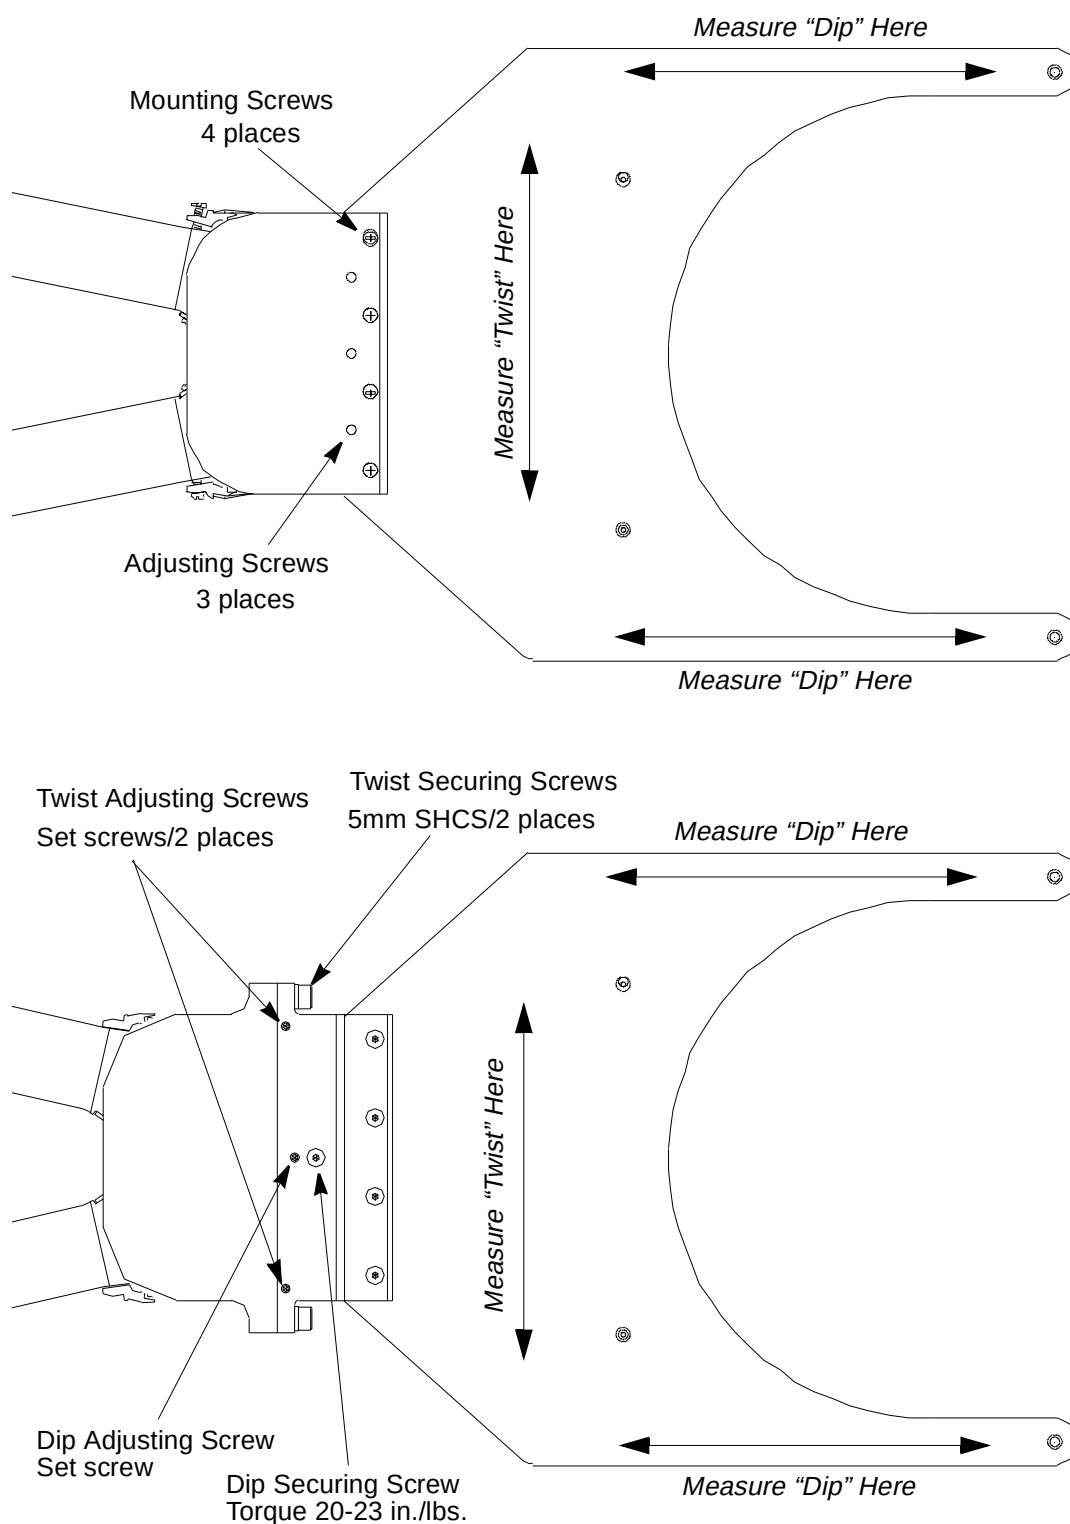

Figure 7-2: End Effector Measurement Locations-Two Types Shown
2. Using the CDM, jog the robot's end effector into the module and rest the tip of the dial indicator on the end effector to measure "dip" where indicated in **Figure 7-2**, being careful not to deflect the end effector.
4. Position the tip of the dial indicator on the end effector to measure “twist” where indicated in **Figure 7-2**, being careful not to deflect the end effector.
1. The 3 set screws act as adjusting screws in the robot arm's wrist plate, shown in Figure 7-2, and allow leveling of the end effector. If the dip of the end effector is low, raise it by tightening the set screws. If the dip of the end effector is high, lower it by backing off the set screws. If the twist is not level, loosen or tighten the outside set screws and use the middle screw as a pivot point. If necessary, loosen the 4 end effector mounting screws before making the adjustment. Be sure to tighten the mounting screws after making any adjustments.
BOTTOM VIEW shown in Figure 7-2